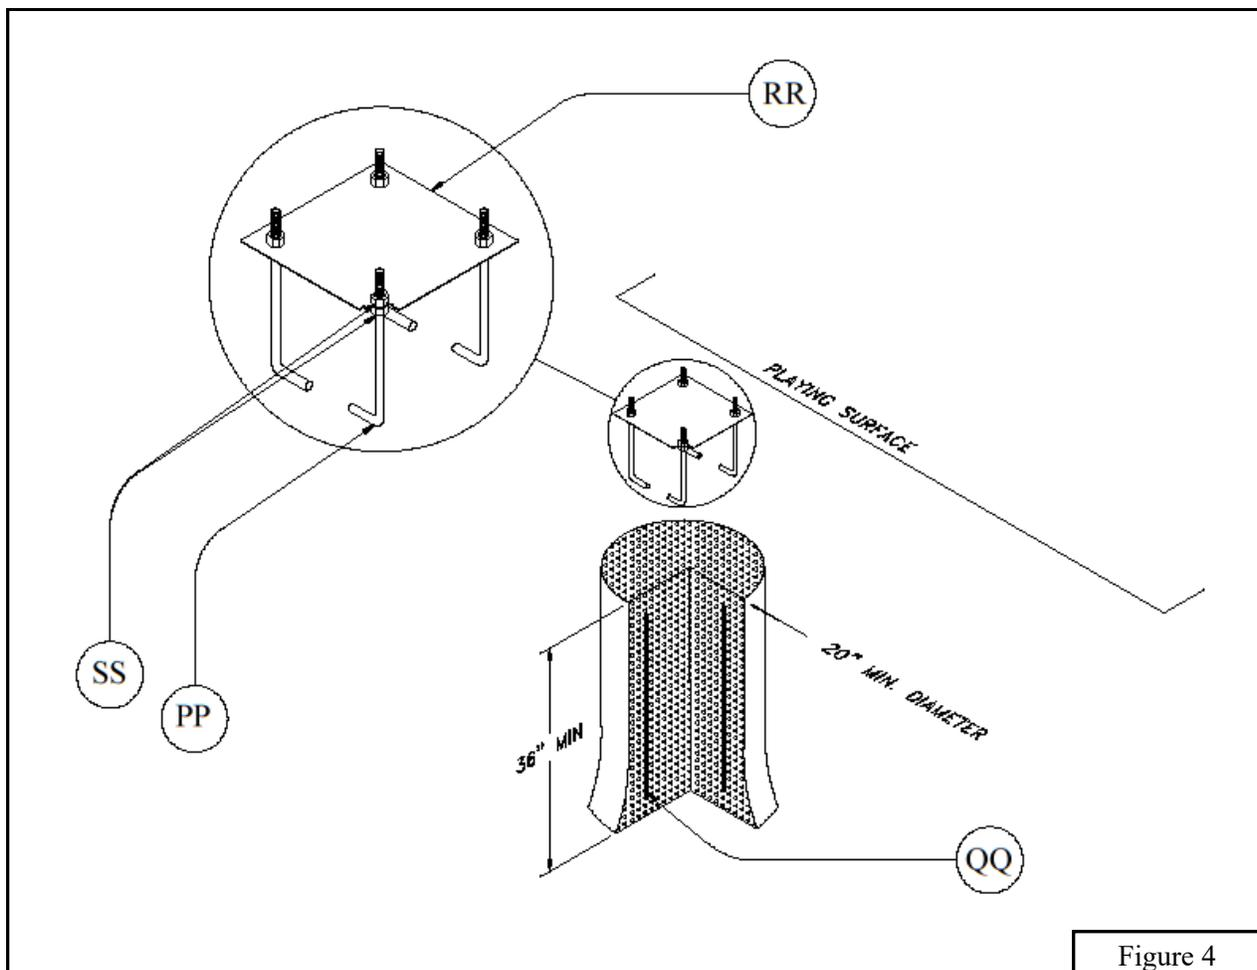

Figure 4
- 8b. Tighten all 1/2" *Button Head Screws (LL)* only when the two *Pole Sections (A)* fit tightly together.
- 9b. Dig a hole a minimum of 20" in diameter and 36" deep. Bell out the bottom 12" of the hole to a diameter that is at least 4" larger than the diameter of the hole at the top. Digging the hole too big is better than digging it too small. See Figure 4.
- 10b. Prepare the "J" Bolt assembly by first threading a 5/8" *Hex Nut (SS)* onto each "*J*" Bolt (PP) so that approximately 2-1/2" of thread is protruding above the nut. Place the threaded end of each "*J*" Bolt (PP) through the four holes in the *Template (RR)*. Thread a second 5/8" *Hex Nut (SS)* onto each "*J*" Bolt (PP) on the top side of the *Template (RR)*. Tighten the nuts on both sides of the *Template (RR)*, making sure that the same length of "*J*" Bolt (PP) (2" minimum) is protruding above the *Template (RR)* in all four corners and that the "*J*" Bolt (PP) "legs" are pointing toward the center of the *Template (RR)*. See Figure 4.
- 12b. A 20" diameter by 36" deep hole, with additional soil removed from the bottom 1/3, will require approximately twenty 60 lb. bags of *Premix Concrete (GG)*. Allow for more if the hole is deeper or wider. Make sure you have enough concrete on-site before pouring, because allowing a portion to dry before the hole is completely filled will affect the strength of the footing.
- ◆ Damaging threads on J-Bolts making it impossible to install 5/8" Hex Nuts (SS).
- 15b. Drop the *Rebar* (QQ) into the wet concrete to help support the concrete footing.
- 16b. Insert the "J" bolt assembly into the wet concrete. Be sure the *Template* (RR) is parallel to the desired position of the backboard and the edge of the playing surface. Use the tape measure to double check. Vibrate the assembly as you insert it so that concrete fills in around the "J" Bolts (PP). Be sure the *Template* (RR) is pressed firmly against the surface of the wet concrete. The top of the concrete footing should be flush with the playing surface. See Figure 4.
- 17b. Clean excess concrete from edge of hole and level the concrete from the edge of the *Template* (RR) to the edge of the hole. **Allow concrete to cure for 4 days.**